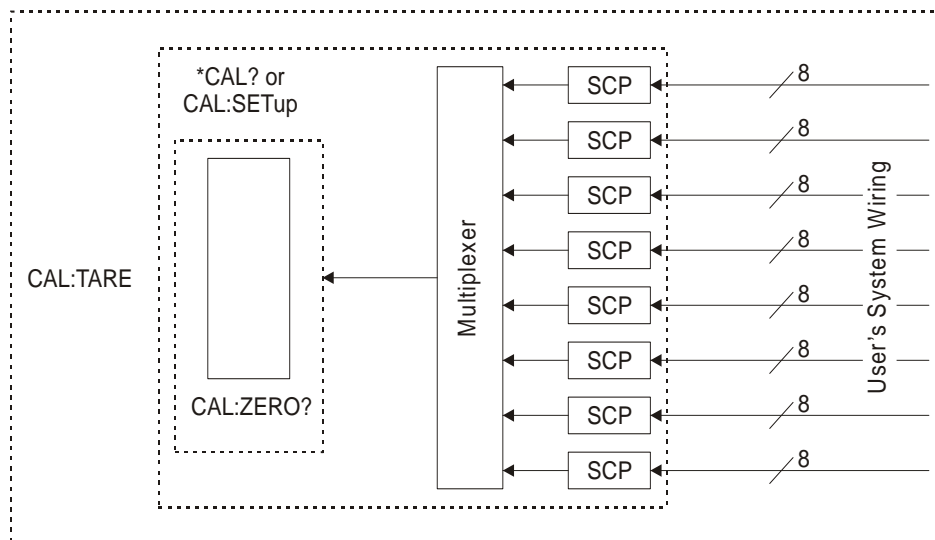

Figure 7-3. Levels of Working Calibration
2. "Working Calibration"—Which has three levels (see Figure 7-3):